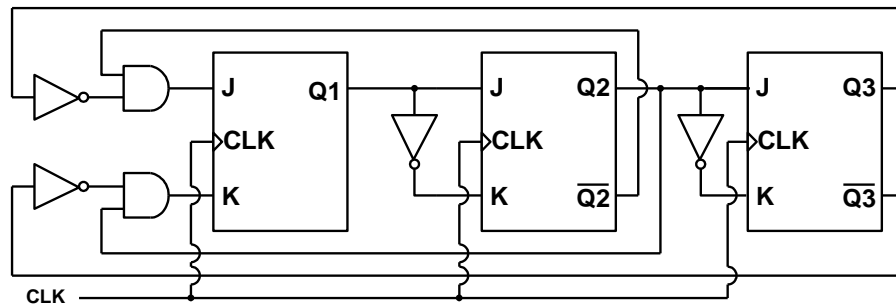

Figure 7-2. The schematic of a circuit constructed with elementary gates and JK FFs.
- Figure 7-2 shows a circuit constructed with elementary gates and JK flip flops, in which all of the FFs are positive edge triggered. Write down the present state $Q1_n, Q2_n, Q3_n$ in terms of the previous state $Q1_{n-1}, Q2_{n-1}, Q3_{n-1}$, and prepare a table showing the state of the circuit after each clock pulse, starting from the (0, 0, 0) initial state.